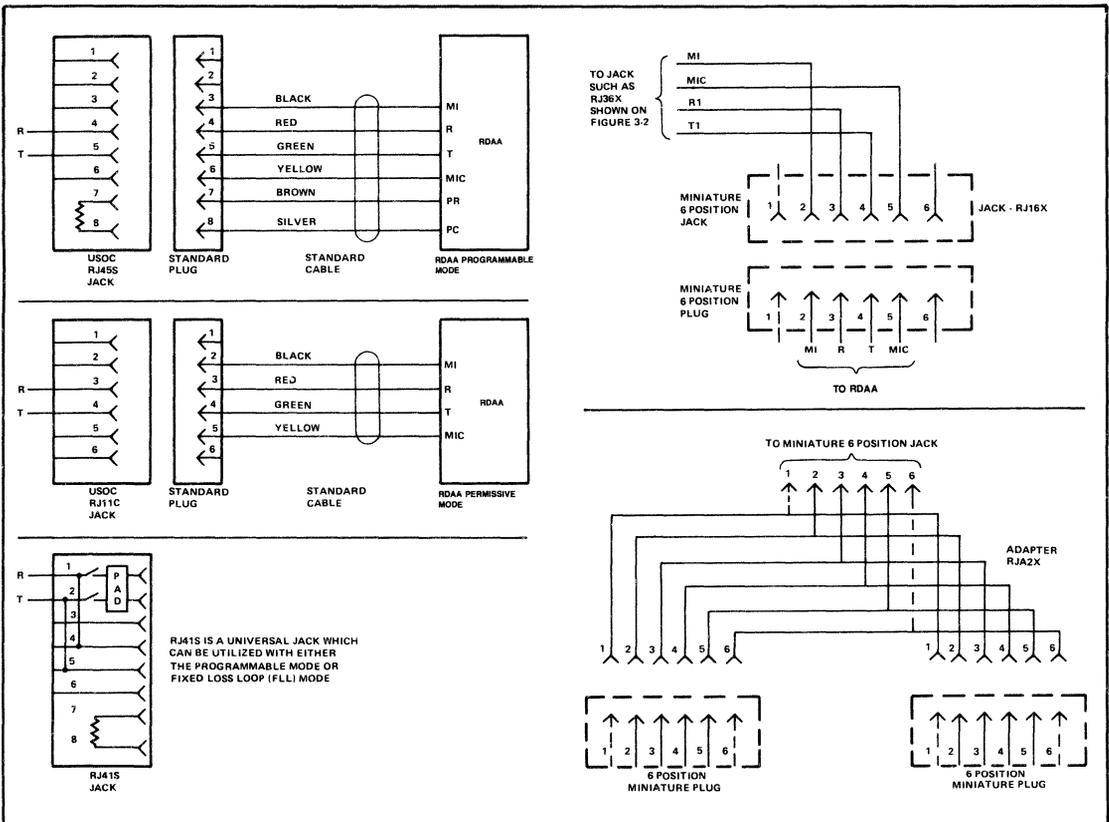

Figure 4. Standard Jacks, Plugs and Cable Color Codes
Connection of the telephone line interface pins of the RDA to the network shall be made via standard jacks and plugs as shown in Figure 4. Cable color codes are also shown in Figure 4. A number of telephone line cord manufacturers produce the standard plugs and cables (Meyer Wire Co., Hamden, CT; Virginia Plastics, Roanoke, VA, etc.)
- A. Check the telephone line interface cable(s) plug(s) and jack(s) (Figure 4). If the USOC RJ41S jack is used for the Programmable mode, ensure that the jumper W2 is installed and W1 jumper is removed for the programmable mode of operation.
- A. All direct connections to the telephone lines shall be made through standard plugs and jacks as specified in Figure 4 and Table 3-1.